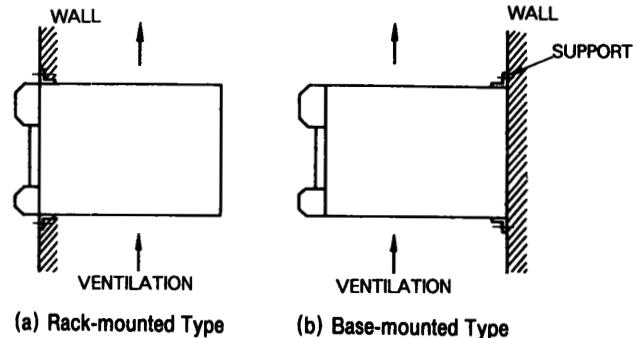

Fig 7.5 Mounting of SERVOPACK
7.5(a.) Install it with setscrews tightened at four mounting holes in the unit base. To change to base-mounted type, change the support position as shown in Fig. 7.5(b). Mounting screws of base support are attached to the SERVOPACK.